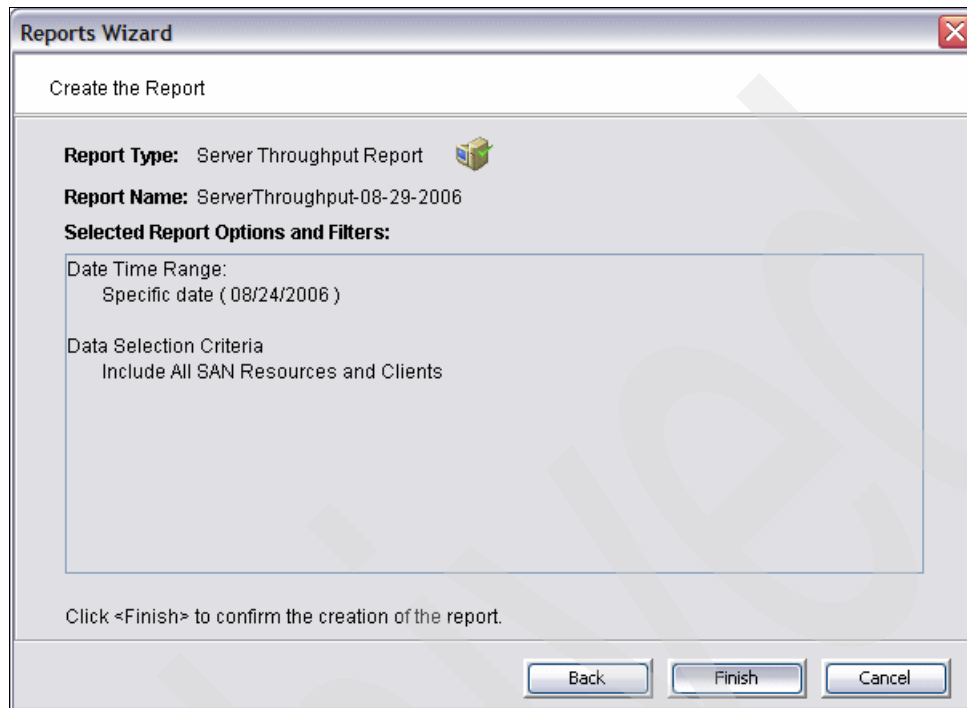

Figure 7-5 Confirming the report
5. You are presented the panel where you can check the type of report, time period of the report, and date of producing the report. If you agree with the listed data, confirm it by clicking **Finish**. This is shown in Figure 7-5.